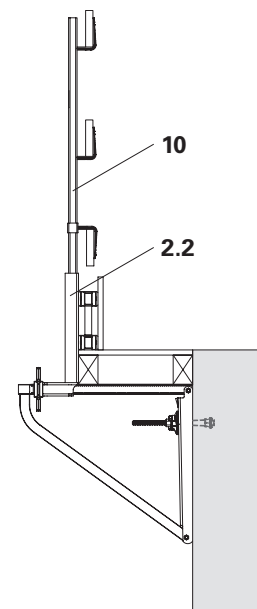

Fig. A2.05
- Insert Guardrail Post HSGP-2 (10) into prop (2.2) and fit the guardrail. (Fig. A2.05)